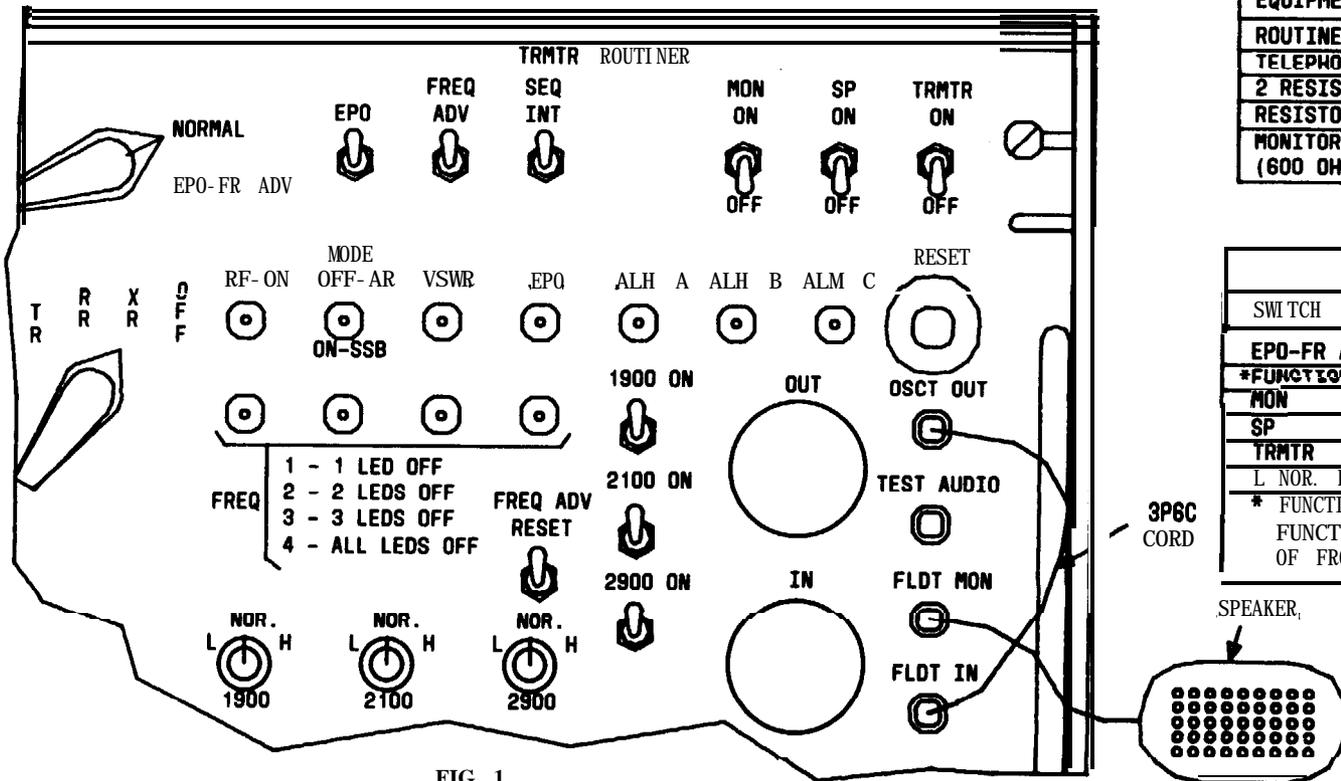

FIG. 1
- [2] SEE FIG. 1 AND NOTE 1. SET SWITCHES SHOWN IN TABLE B